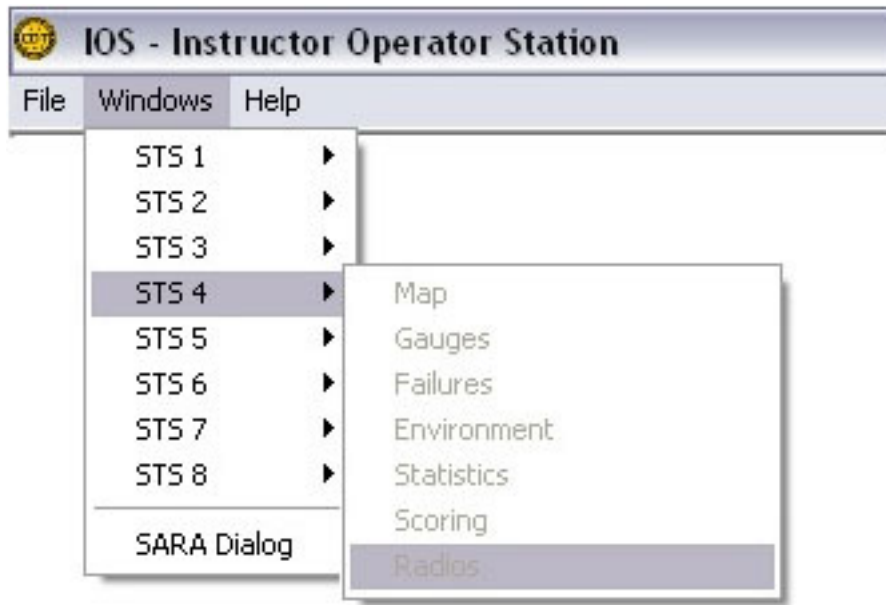

Figure 122. Accessing the Radio Dialog Screen
1. To access the Radio Dialog screen, select the desired STS and associated Radio option from the IOS Windows drop-down menu (Figure 122).